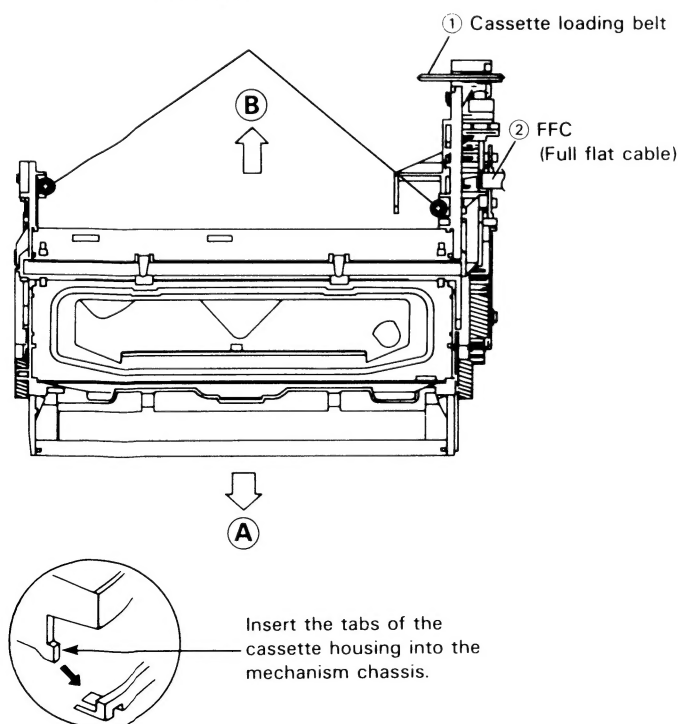

Figure 1-1.
2. Remove the cassette loading belt ①.
3. Disconnect the FFC (Full Flat Cable) ② at the right side of the cassette housing control assembly.
5. Move the cassette housing control assembly (Fig. 1-1) in the direction of arrow ⇒ ③, and pull it out straight upward.